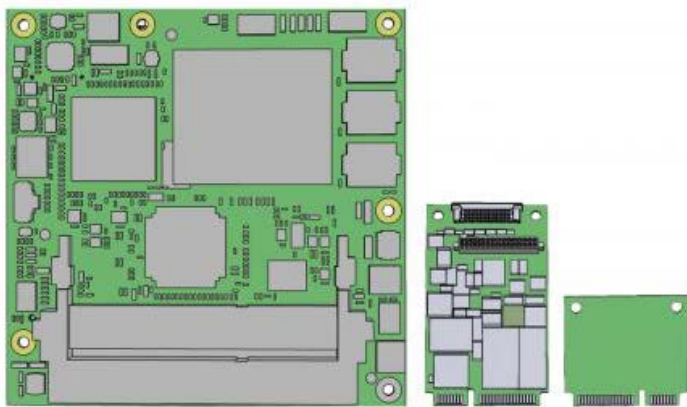

Figure 1
- Figure 1 - Size comparison of COMe Compact for...
Less dominant in the military embedded market than 3U VPX, but still boasting a significant presence in Mil COTS system designs are COM-Express, PCIe104, PCIe Mini Card, and SMARC small form factor modules (Figure 1). In a growing trend, system designers, as they define their small form factor solution, are increasingly embracing some combination of these standards based modules. As a result, designers who embrace this trend are turning away from proprietary and single-vendor solutions, instead sourcing from multiple suppliers the various and heterogeneous modules they require for their specific solution. This emerging hybrid open architecture approach enables designers to better leverage a much wider range of open standard solutions that is offered from a far greater number of industry suppliers.